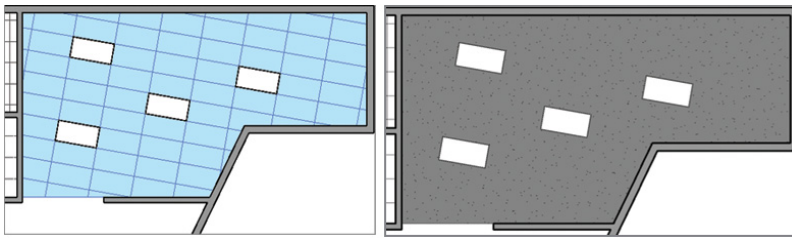

FIGURE 3.39 Selecting ceiling geometry
2. Pull down the Type Selector in the Properties palette, and select the GWB type for this ceiling (Figure 3.39). The result is shown in the left image in Figure 3.39.